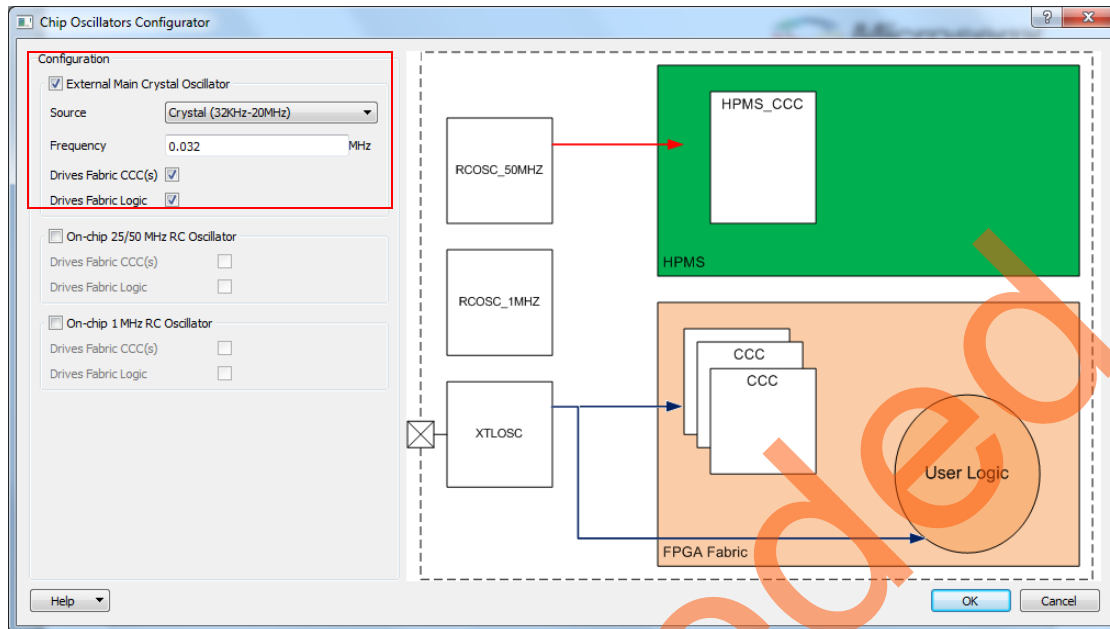

Figure 12 • Configuring Chip Oscillators
20. Double-click on the **OSC_0** component in the **SmartDesign** canvas and open the **Chip Oscillators Configurator** window, as shown in Figure 12.
21. Configure the **External Main Crystal Oscillator** to drive **FCCC** and **fabric logic**. Enter the following information (see Figure 12):